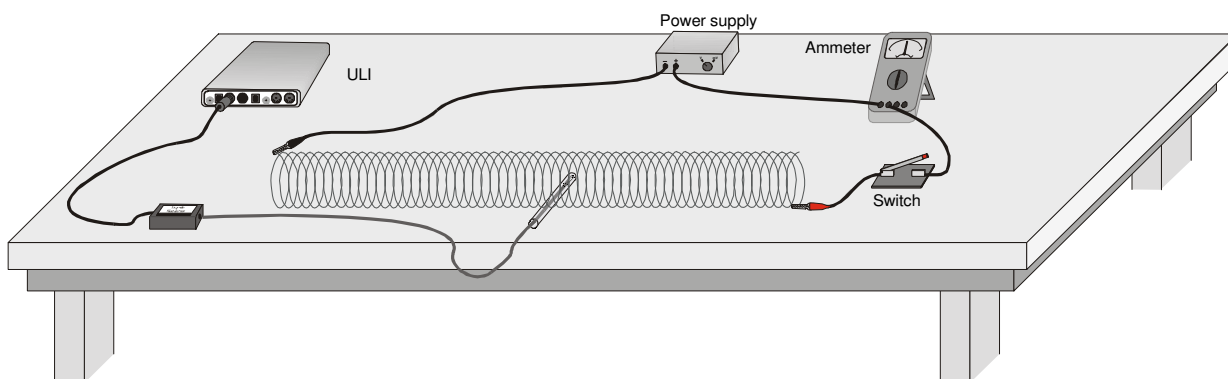

Figure 1
3. Set up the circuit and equipment as shown in Figure 1. Wires with clips on the end should be used to connect to the Slinky. The clips should be separated by about 1.0 m.
For the second part of the experiment, you will determine the relationship between the magnetic field in the center of a coil and the number of turns of wire per meter of the solenoid, for constant current. Leave the Slinky set up as shown in Figure 1. The sensor will be oriented as it was before, so that it measures the field down the middle of the solenoid. You will be changing the length of the Slinky from 0.75 to 2.0 m to change the number of turns per meter.